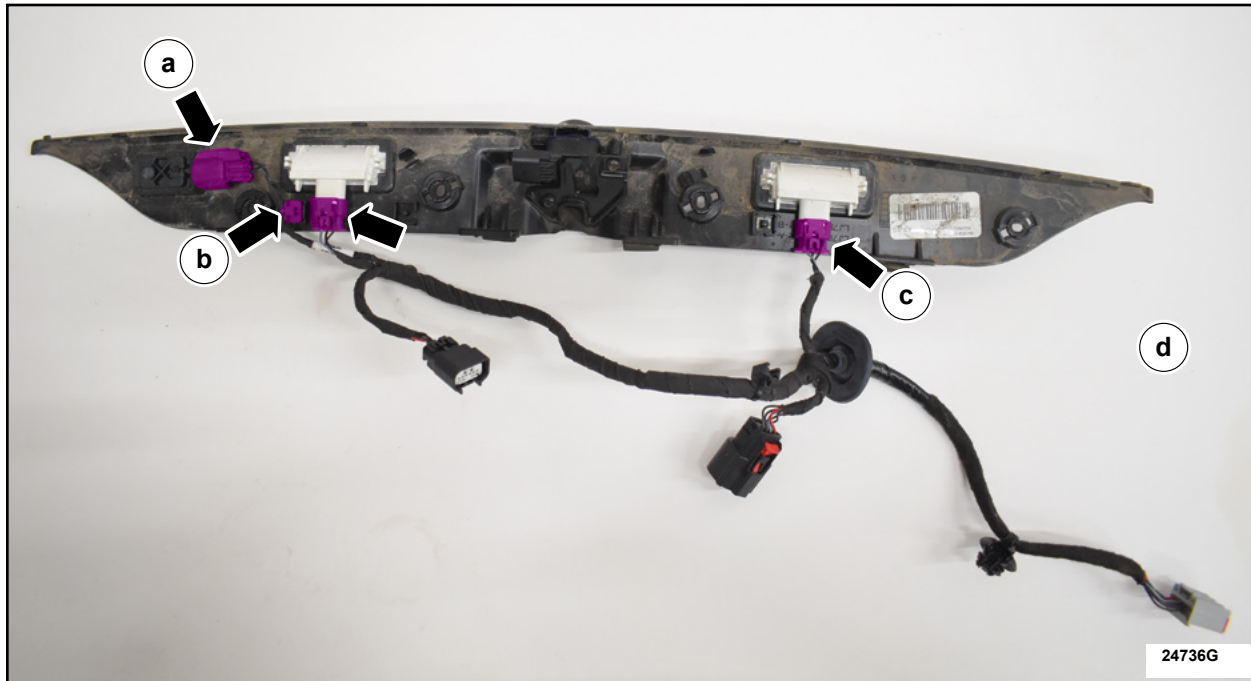

FIGURE 9
8. Remove the liftgate wire harness. See Figure 9.